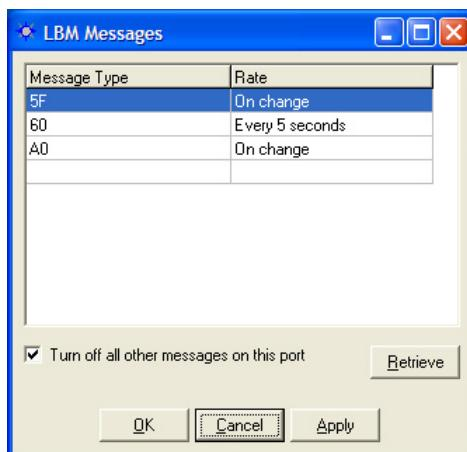

Figure 76: LBM Messages Window
- ✓ Select *Receiver > Setup > StarFire™ > Configure Message Output*. The *LBM Messages* window opens (see Figure 76).